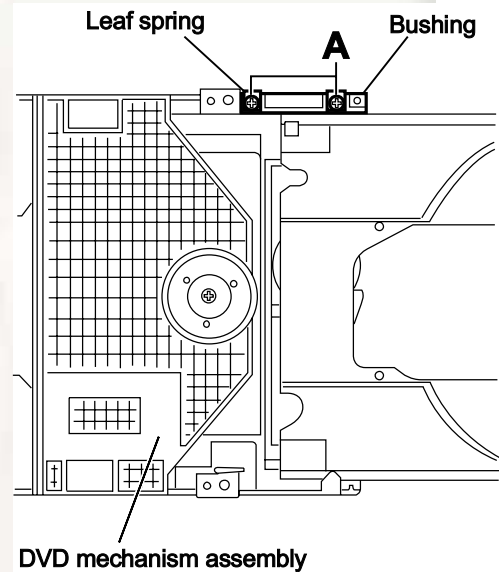

Fig.2
- (2) From the top side of the DVD mechanism assembly, remove the two screws **A** attaching the leaf spring to the bushing and remove the leaf spring. (See Fig.2.)